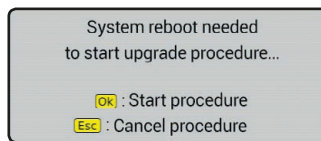

Fig. 179
- The message in Fig. 179 is displayed: confirm the update by pressing **OK** again.